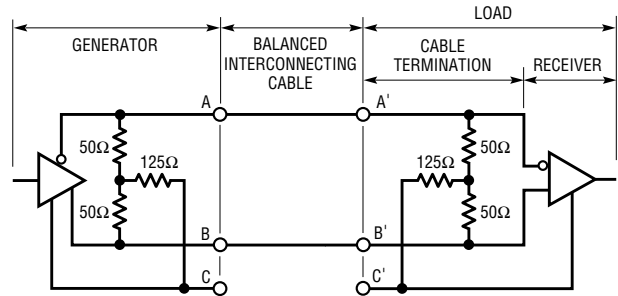

Figure 8. Typical V.35 interface
A typical V.35 balanced interface is shown in Figure 8. A V.35 differential generator with outputs A and B and ground C is connected to a differential receiver with ground C', input A' connected to A and input B' connected to B. The V.35 interface requires T or delta network termination at the receiver end and the generator end. The receiver differential impedance measured at the connector must be $100 \pm 10\Omega$, and the impedance between shorted terminals (A' and B') and ground (C) is $150 \pm 15\Omega$.